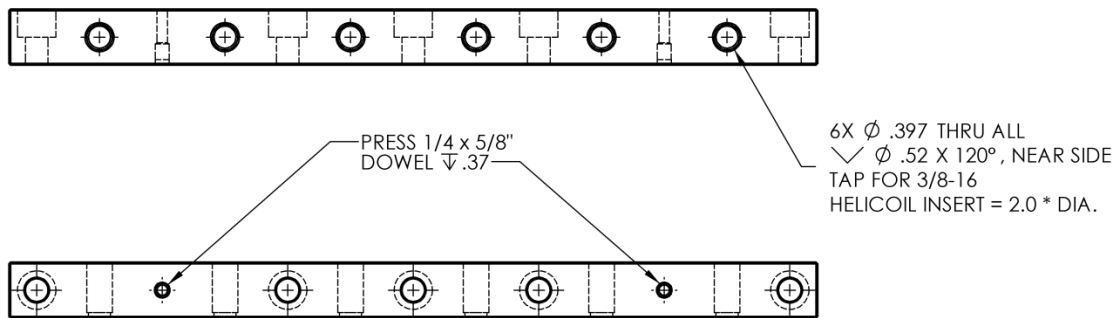

Figure 23
1. Apply Helicoils and dowel pins as shown Figure 23. Note: insert dowels on side opposite counter bores.